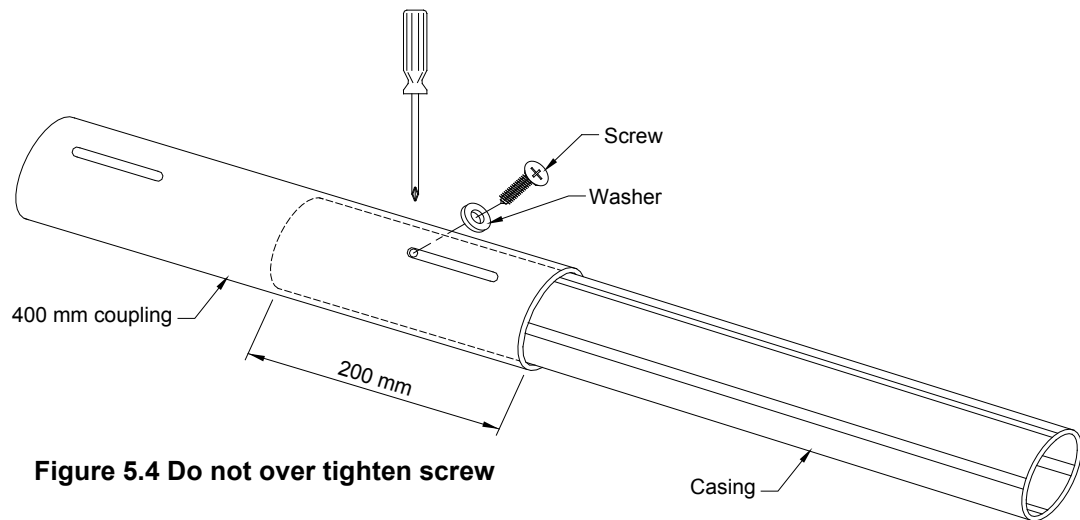

Figure 5.4 Do not over tighten screw
- b. For applications in which only settlement takes place push 400 mm long telescopic coupling over end of casing upto maximum allowable depth of around 195 mm. Drill two holes with 2.5 mm bit at end of slot of coupling as shown in figures 5.4 and 5.5. Fix coupling to casing with self-tapping screws and washers at position A. (Position B is location where the other casing will be drilled during installation at site).